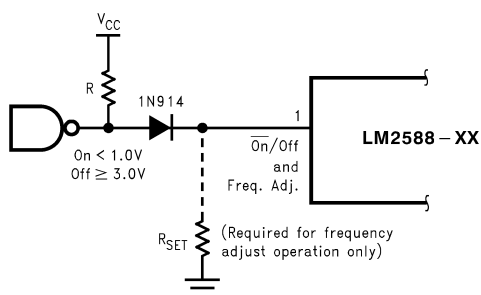

Figure 20. Shutdown Operation
- (1) All room temperature limits are 100% production tested, and all limits at temperature extremes are specified via correlation using standard Statistical Quality Control (SQC) methods.
- (2) To measure this parameter, the feedback voltage is set to a high value, depending on the output version of the device, to force the error amplifier output low and the switch off.
- (3) To measure this parameter, the feedback voltage is set to a low value, depending on the output version of the device, to force the error amplifier output high and the switch on.
- (4) To measure the worst-case error amplifier output current, the LM2588 is tested with the feedback voltage set to its low value (specified in Note 3 under the Electrical Characteristics: All Output Voltage Versions ^{\(1\)} table) and at its high value (specified in Note 2 under the Electrical Characteristics: All Output Voltage Versions ^{\(1\)} table).
- (5) When testing the minimum value, do not sink current from this pin—isolate it with a diode. If current is drawn from this pin, the frequency adjust circuit will begin operation (see Figure 20).
A feature of the LM2588 is its ability to be shut down using the $\overline{ON}/OFF$ pin (pin 1). This feature conserves input power by turning off the device when it is not in use. For proper operation, an isolation diode is required (as shown in Figure 20).
The device will shut down when 3 V or greater is applied on the $\overline{ON}/OFF$ pin, sourcing current into pin 1. In shut down mode, the device draws typically 56 μ A of supply current (16 μ A to V_{IN} and 40 μ A to the $\overline{ON}/OFF$ pin). To turn the device back on, leave pin 1 floating, using an (isolation) diode, as shown in Figure 20 (for normal operation, do not source or sink current to or from this pin—see the next section).
The switching frequency of the LM2588 can be adjusted with the use of an external resistor. This feature allows the user to optimize the size of the magnetics and the output capacitor(s) by tailoring the operating frequency. A resistor connected from pin 1 (the Freq. Adj. pin) to ground will set the switching frequency from 100 kHz to 200 kHz (maximum). As shown in Figure 20, the pin can be used to adjust the frequency while still providing the shut down function. A curve in the Performance Characteristics Section graphs the resistor value to the corresponding switching frequency. The table in Table 1 shows resistor values corresponding to commonly used frequencies.